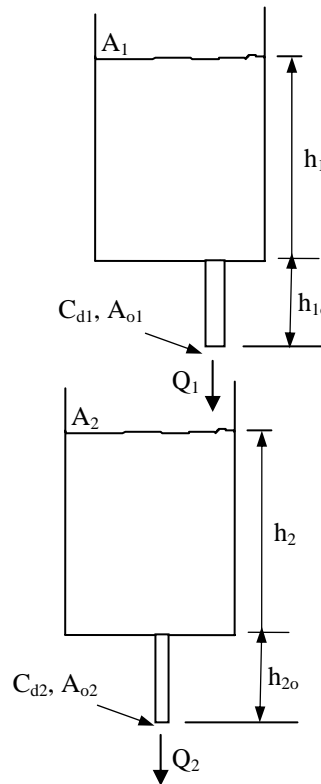

Figure 2: Cascading tanks
- To use the best-estimate single-tank models to predict the behavior of the two-tank system shown in Figure 2, and to compare and contrast this prediction to the experimental initial-condition response of the two-tank system.